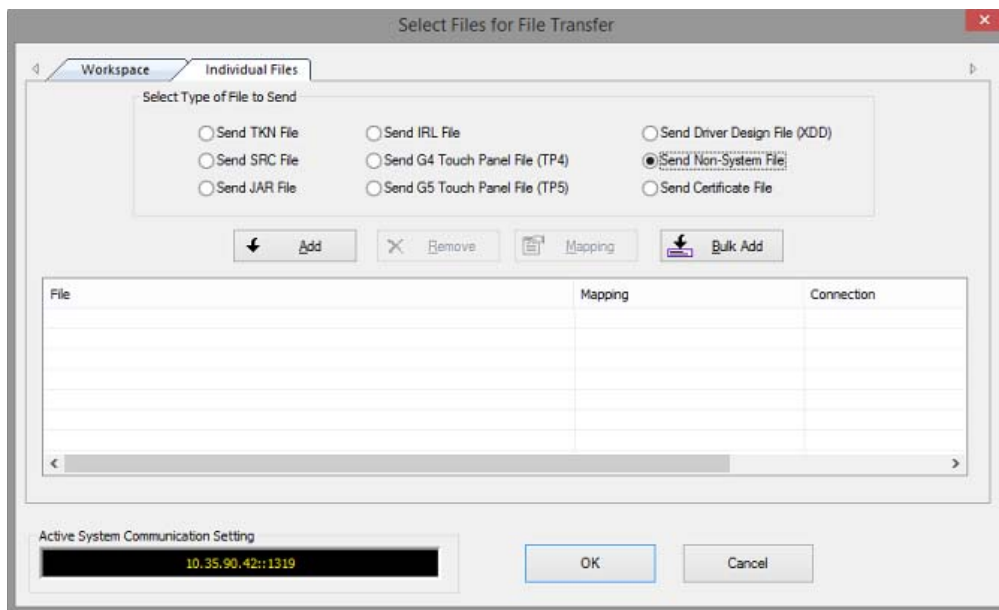

FIG. 165 NetLinx Studio 4 - Select Files for File Transfer dialog (Individual Files tab)
2. Click **Add** to open the *Select Files for File Transfer* dialog, open the *Individual Files* tab and select **Send Non-System File** (FIG. 165):